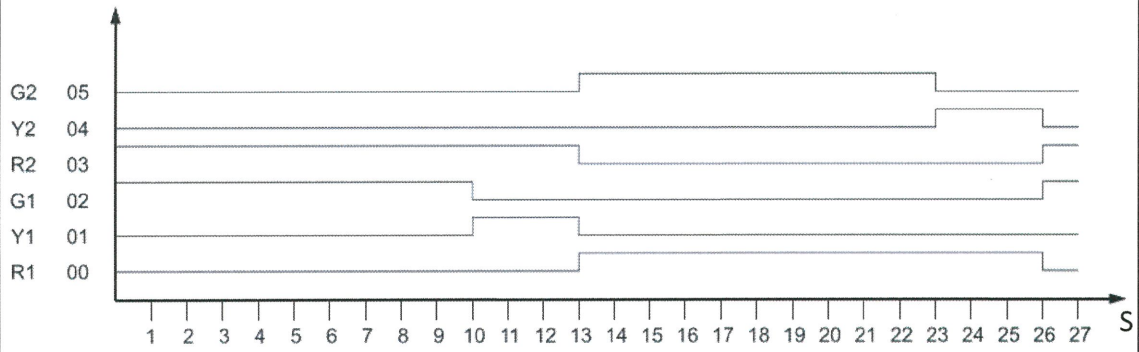

Figure Q4 (c)
- (c) Figure Q4 (c) shows the timing diagram for Traffic Light system. Design a ladder diagram for the system. R1- Red 1, Y1-Yellow 1, G1-Green 1, R2- Red 2, Y2-Yellow 2, G2-Green 2.